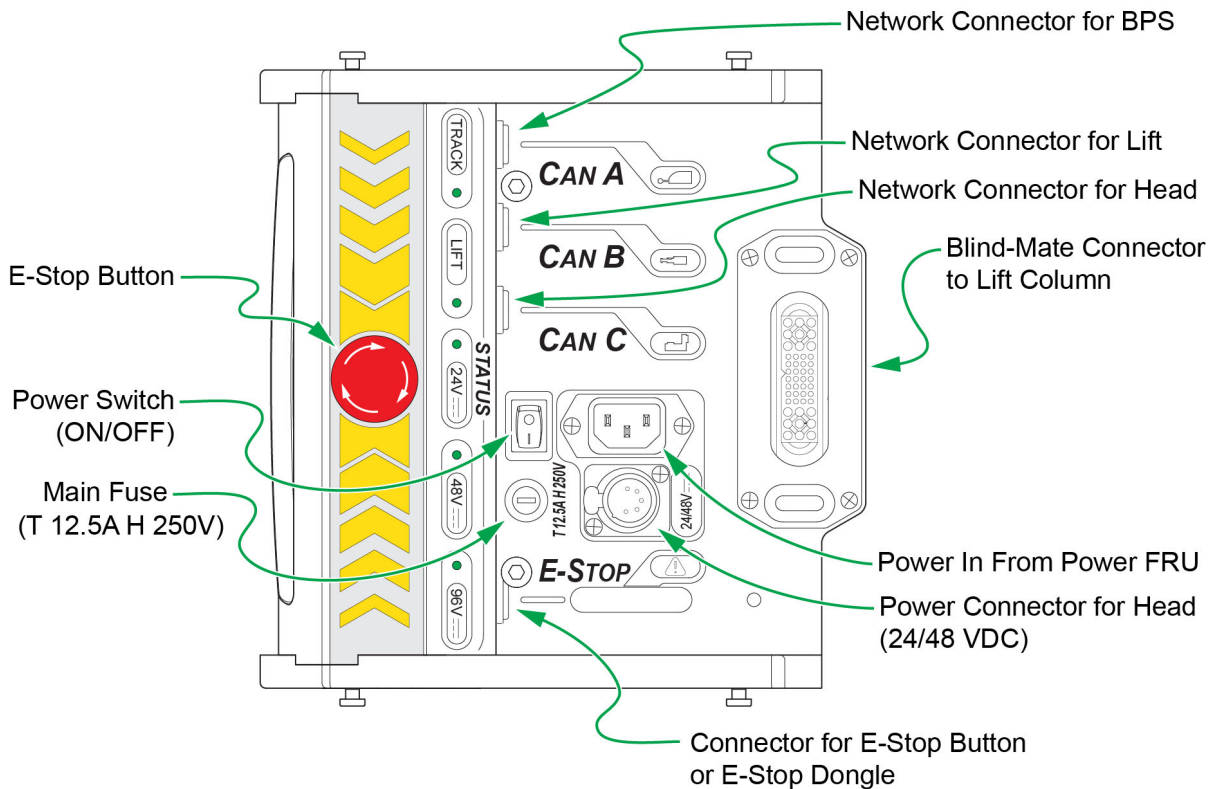

Figure 30 - Furio SE Dolly Main FRU Connection Panel
The **Main FRU** contains all the control electronics. All network and power connections for the dolly, lift, and head are through the Main FRU's connection panel (**Figure 30**).
1. Turn off the dolly, and then disconnect the Main FRU's Power In cable (**Figure 30**).